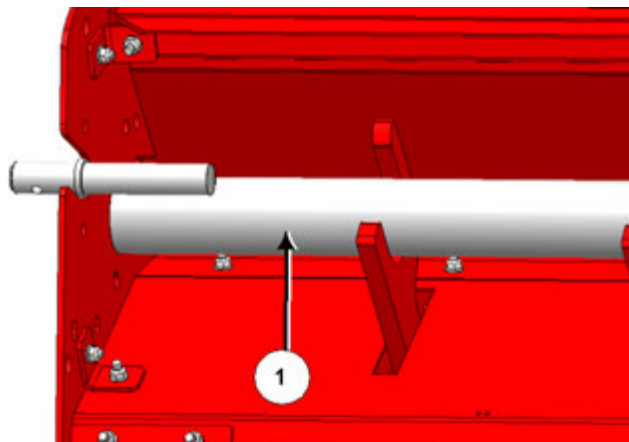

Figure 32: Slide adjustment bar in place
- a. Slide the guard rod adjustment bar (1) in place; see Figure 32.